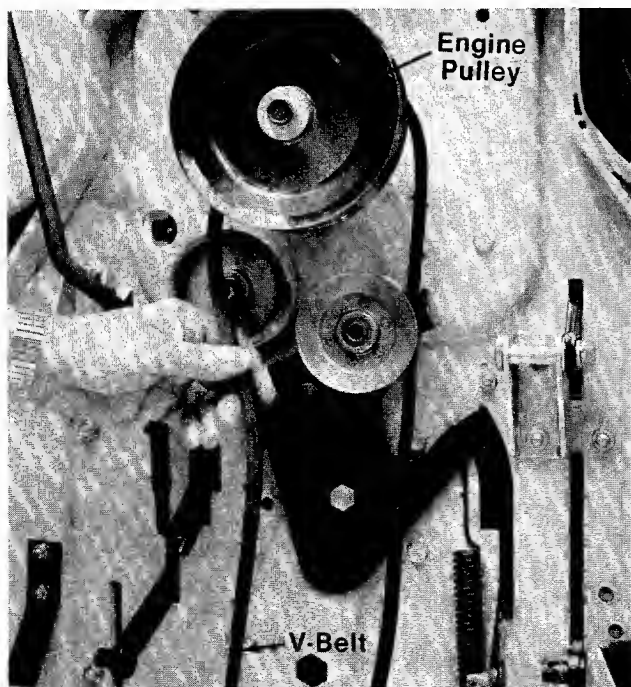

FIGURE 41.
12. Unhook the belt from the engine pulley. See figure 41.